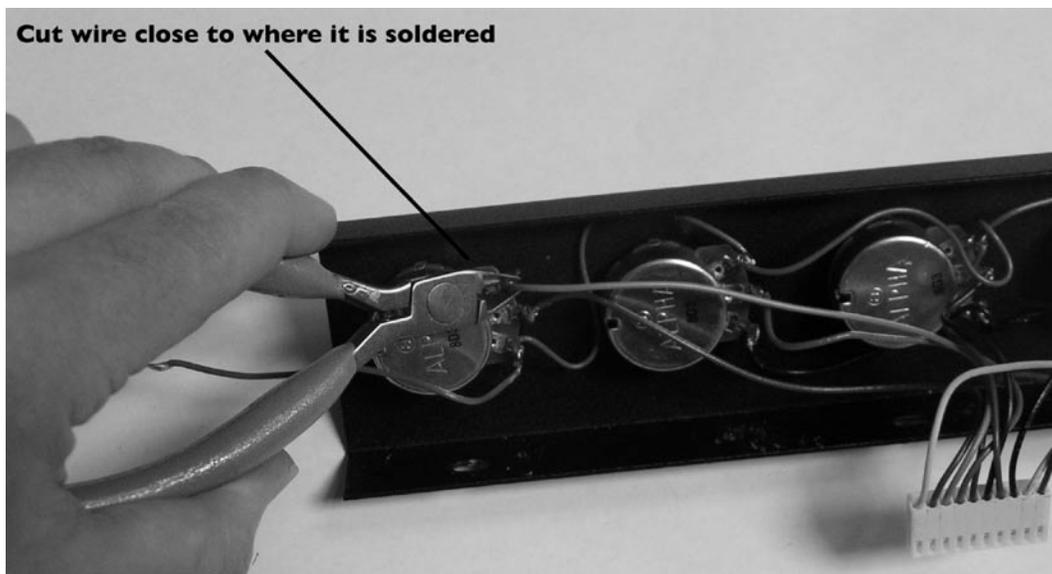

figure 1
- 7) Disconnect the grey and white wires from the power switch. Cut the following wires where they are soldered to the pots or jack: Yellow, Brown, Orange, Red, Violet, Blue, Green, Black. (see figure 1)